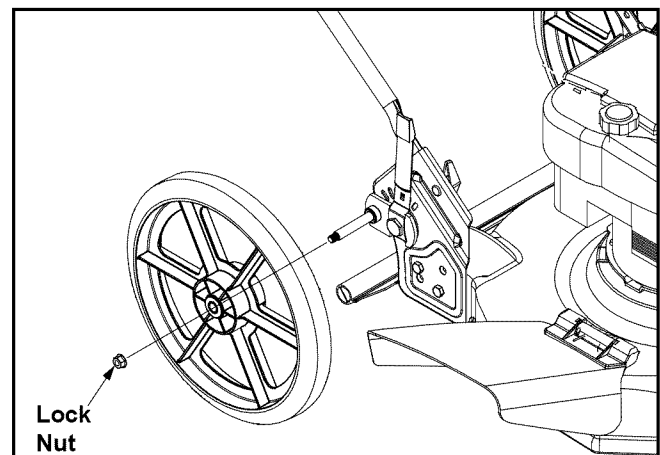

Figure 8
- Remove lock nut from pivot arm assembly, slide wheel, with hollow side in, onto axle and secure with lock nut. See Figure 8.